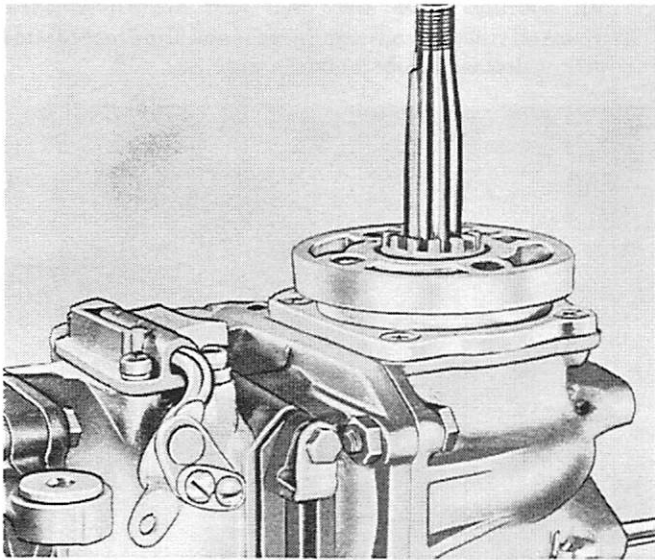

Figure 1. Key on Crankshaft
2. Remove key on crankshaft and loosen lock nut which holds sealed ball bearing (left hand thread). (Figure 1)